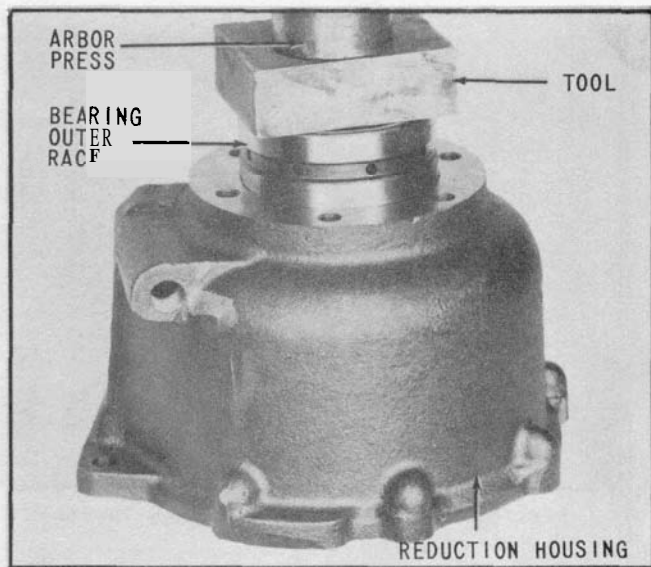

Fig. 24 Installing Outer Bearing Race
23. Lubricate the outer diameter of the outer race with automatic transmission fluid, then using a suitable tool as shown in (Fig. 24) press race in until it is firmly seated against shoulder in the reduction housing.